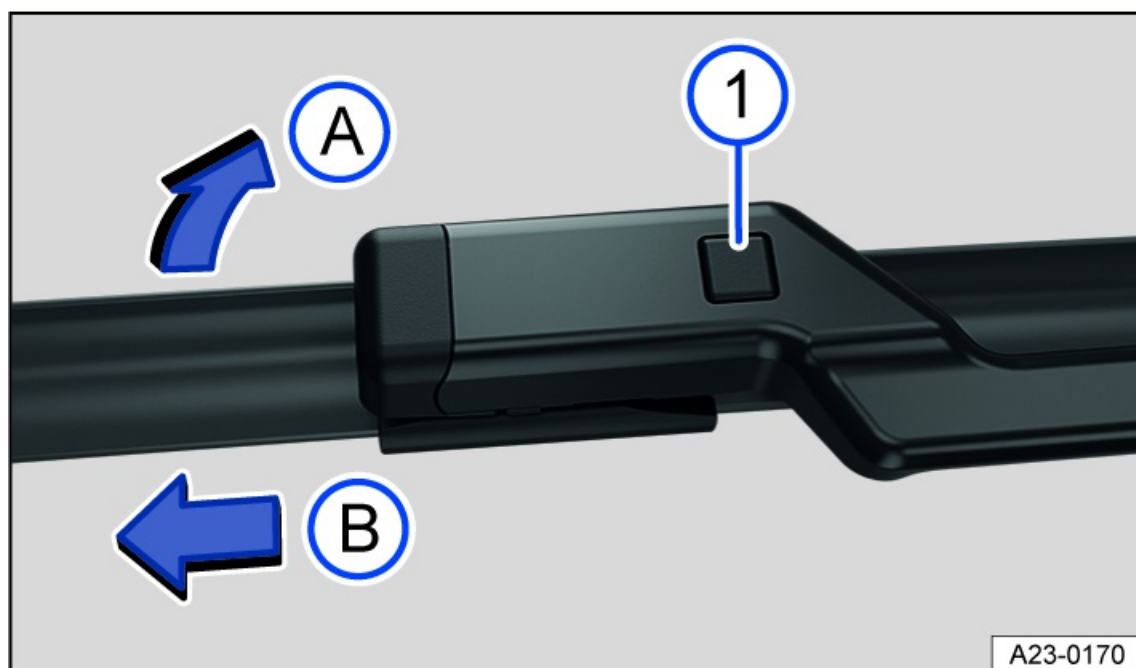

Fig. 141 Changing the windshield wiper blades.
① Wiper blade release button.
3. Press and hold the release button *fig. 141* ①.
4. Tilt the wiper blade toward the wiper arm *fig. 141* A while removing it in the direction of the arrow B. You may need to use more force to do this.
5. Slide a new wiper blade with the same length and design onto the wiper arm in the opposite direction to the arrow until it engages *fig. 141* B. For this to work, the wiper blade has to be folded out *fig. 141* A.